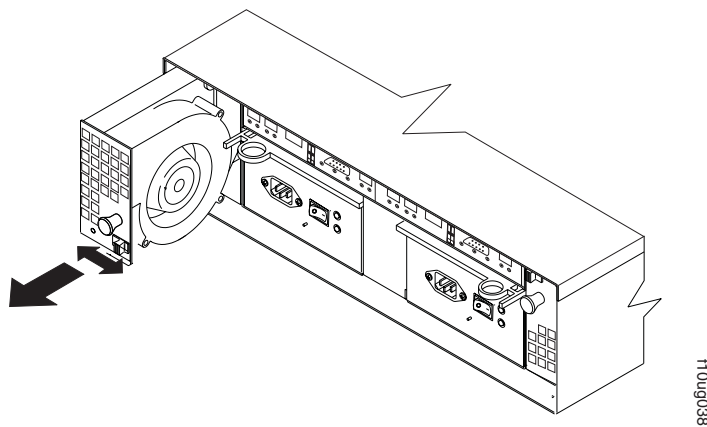

Figure 15. Removing a fan
2. Grasp the handle and pull the fan unit out of the bay, as shown in Figure 15.